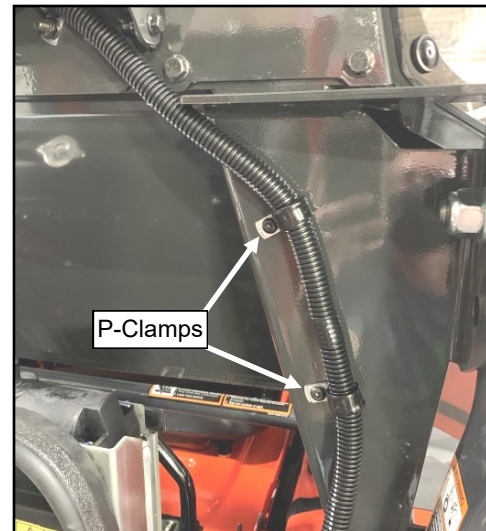

Fig. 7.5 (P-Clamp Wire Harness to ROPS Bracket)
- 7.5 See fig. 7.5. Cut the cable ties securing the bundled A/C wiring harness and attach the harness to the lower ROPS brackets with p-clamps as shown.